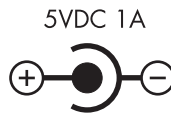

Figure 6. Power connection barrel receptacle
- The supplies connection to the CopperLink Ethernet Extender is a 2.5 mm barrel receptacle with the center conductor positive (see Figure 6).